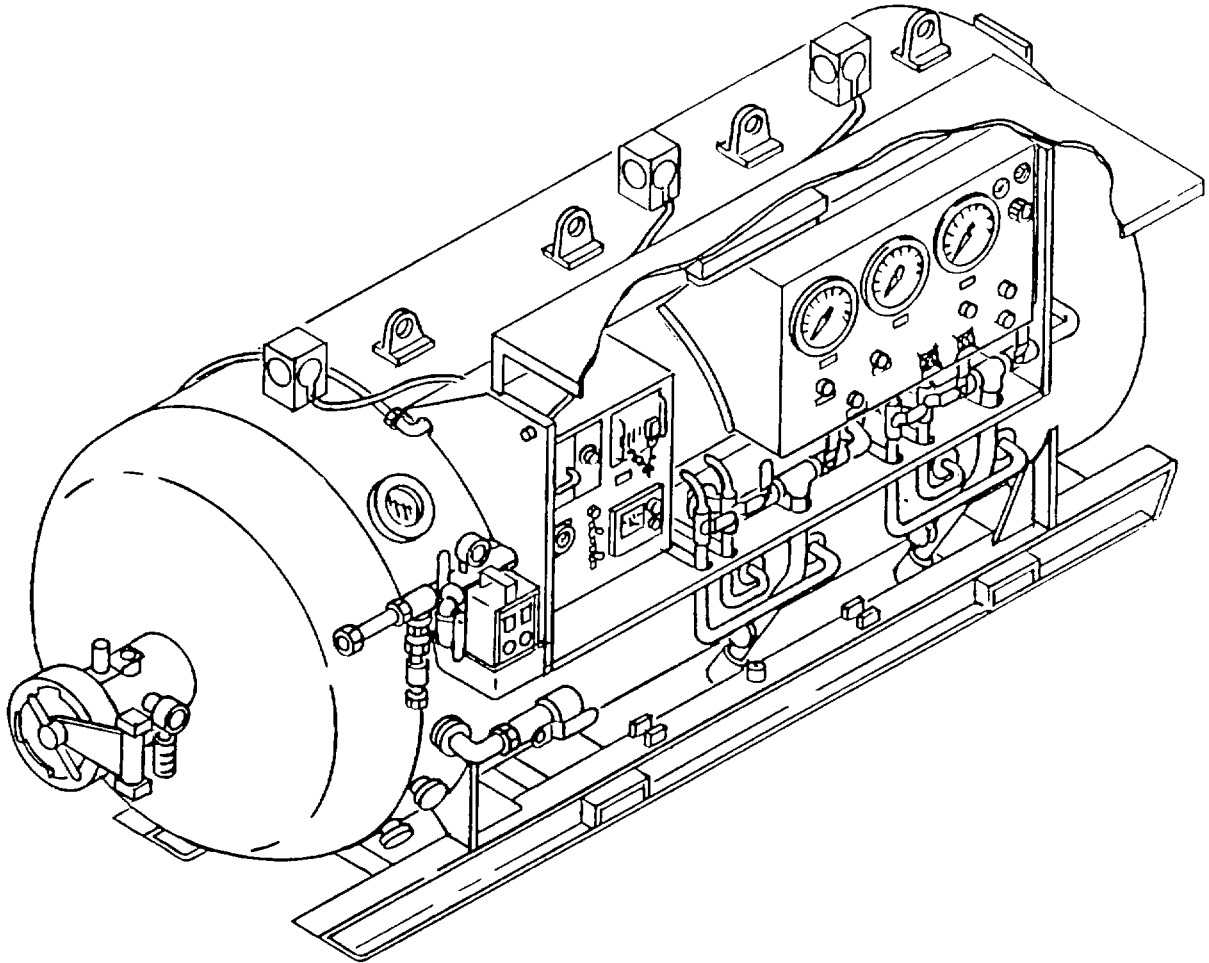

Figure 1-1. 3-Person Recompression Chamber.
1-1. **Scope.** This manual contains operator's, unit, direct support and general support maintenance for Recompression Chamber 3-Person, Model RC-100-2 (figure 1-1).
a. The recompression chamber (figure 1-1) is an aluminum pressure vessel with two (2) compartments; a main inner lock and an (entry chamber) outer lock. Each lock contains air pressure adjusting valves, caisson pressure gauges, a three outlet and dump oxygen manifold, a primary and secondary communication system. The unit is equipped with one (1) safety relief valve, set to keep internal pressure from exceeding 105 PSIG. The recompression chamber is equipped with air supply and air vent valves for admitting or exhausting air from the chamber. Six (6) view ports, four (4) on inner lock and two (2) on the outer lock. Pressure gauges (caisson type), are supplied inside both locks. Three (3) pressure gauges are supplied on the outside instrumentation panel, two are piped to the inner lock and one to the outer lock. These gauges are calibrated for 100 PSIG and 225 feet of sea water (FSW) and are red lined at 165 FSW. The chamber is also equipped with a medical lock provisioning port, 12 in inside diameter x 18 in. long. This medical lock port enables those inside the chamber to be supplied with food, medication, and other essentials during recompression.
c. The chamber is equipped with hyperbaric lighting system, controlled from the outside electrical panel. Two (2) lights are provided in the inner lock and one (1) in the outer lock. Each light consists of a light pipe and adapter which penetrates the chamber wall and transmits light to the interior, a light source which slips over the light pipe and contains the bulb, heat absorbing lens in a heat dissipating enclosure, which is wired to the lighting control panel. The control panel contains all the power supply equipment and on-off switches.
e. The chamber is equipped with two (2) communications system. The primary communication system is an "AMCON" intercom system. This system is wired to internal speakers located in inner and outer locks. These speakers act as loud speakers and microphones to complete the communications. The inner lock speaker is provided with a plug in jack and is also supplied with a communication headset and microphone. The secondary communication system consists of three (3) sound powered, hand held telephones, one (1) each in each lock and one (1) at the outside control station.
f. The chamber is equipped with oxygen breathing system consisting of a high pressure oxygen pressure regulator, pressure gages for high and low pressure indication, isolation valves for inner and outer lock, oxygen manifold bibs in inner and outer locks. Each manifold bib is supplied with three (3) oxygen masks (overboard dump type). The dump gas is controlled by differential back pressure regulator located on the exterior control panel.